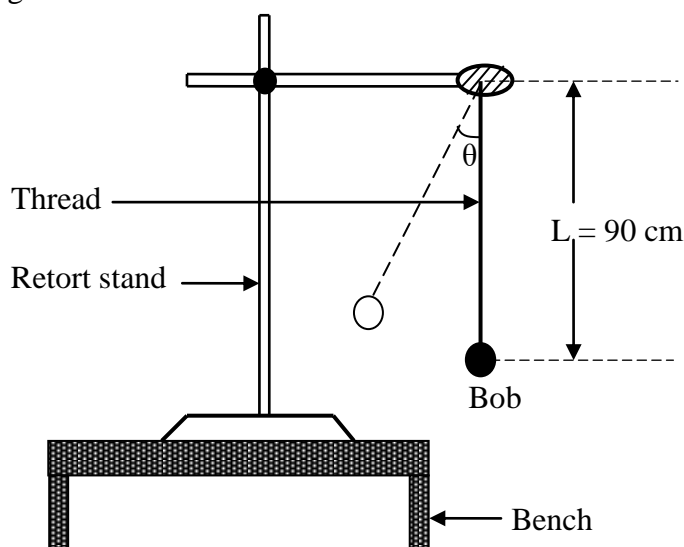

Figure 19
- (c) Ensure that the length of the thread from the fixed point to the bob is about 90 cm as shown in Figure 19: